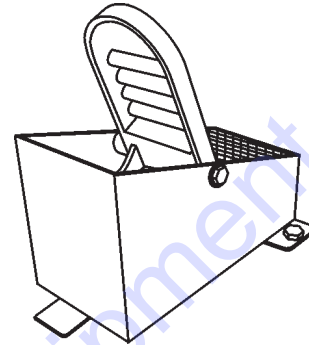

Figure 13. Blade Speed Control Foot Pedal
2. The right foot pedal (Figure 13) controls engine and blade speed. The position of the foot pedal determines the speed of the blade. Slow blade speed is obtained by slightly depressing the pedal. Maximum blade speed is obtained by fully depressing the pedal.